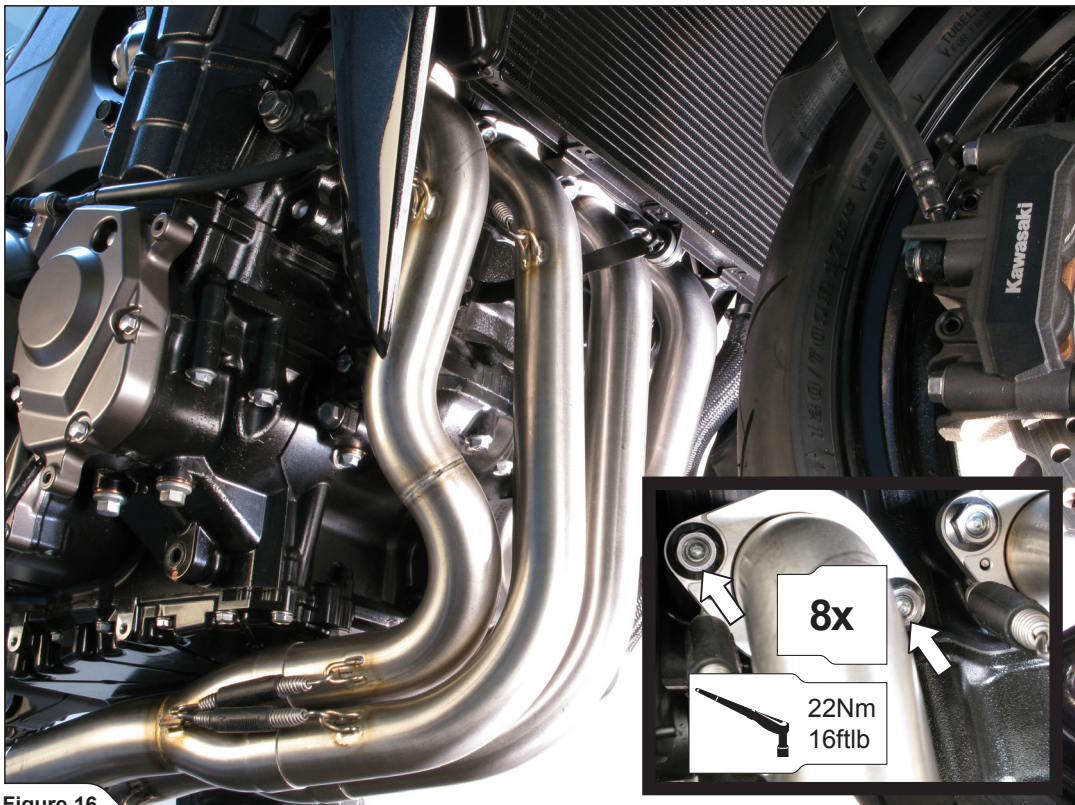

Figure 16
2. Insert the headers into the sleeves, attach the springs and tighten the flanges to specified torque (Figure 16).